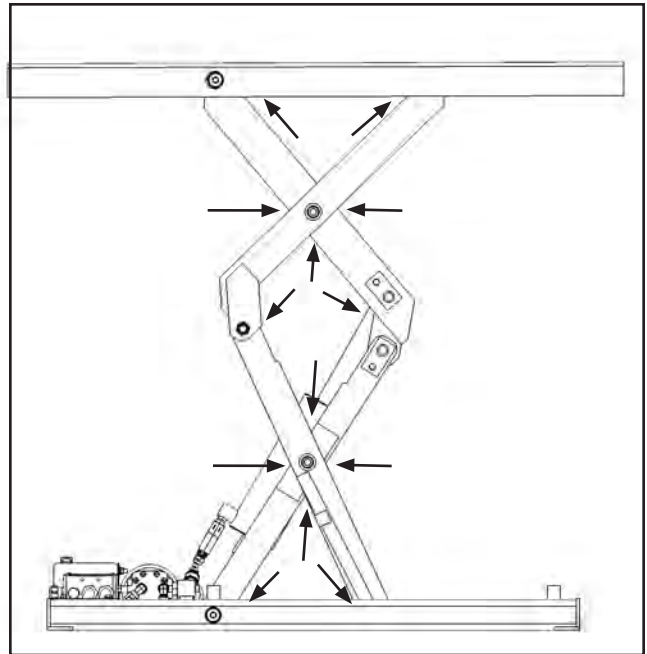
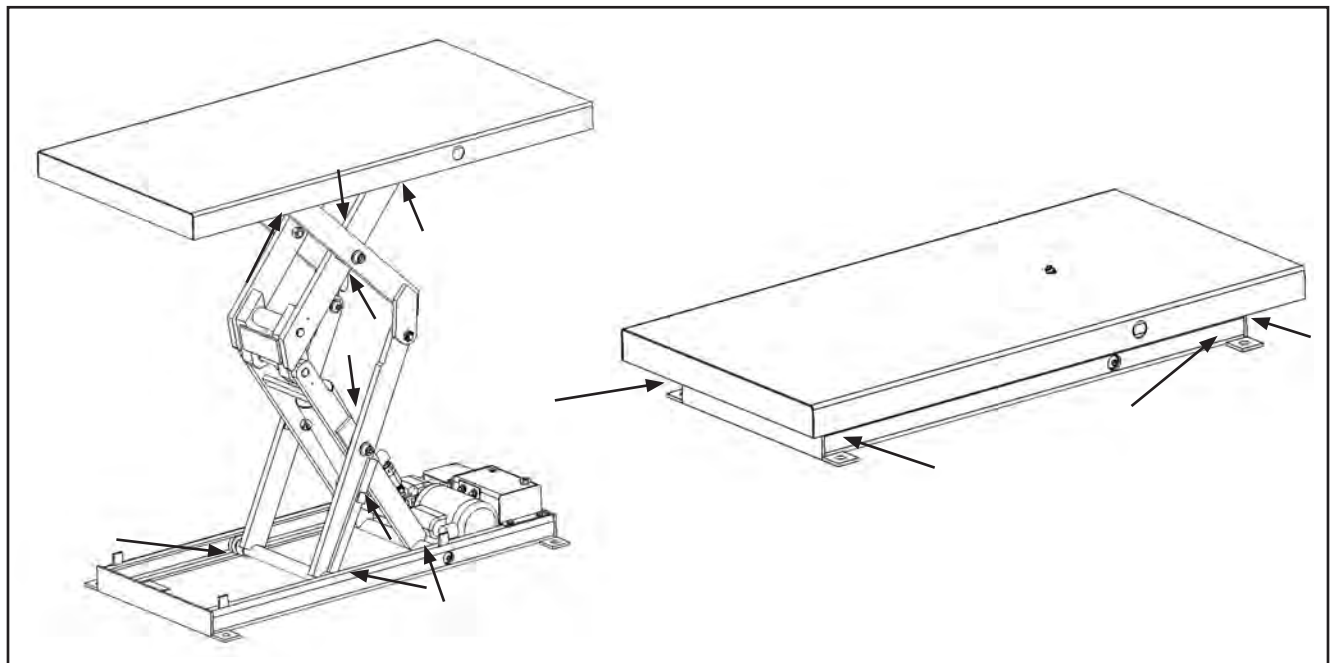

Figure 5 – Pinch Points for CBD
Figure 6 – Pinch Points for CBD
As the lift table moves up and down, “pinch points” are created at the places shown in Figure 5 or Figure 6. If you are standing too close to the lift when it is moving, your arm or leg may be caught in the moving parts, and you may be hurt. Stay away from the pinch points when the lift is moving.
As the lift table moves up and down, “pinch points” are created as shown in Figures 5 and 6. Stay away from these pinch points! Part of your body or clothing may become caught, and you may be hurt.
- As the lift moves up and down, "pinch points" are formed as shown in Figure 6. Keep hands, feet, and loose clothing away from these pinch points. If your hand or arm or a part of your clothing is caught, you may be hurt.